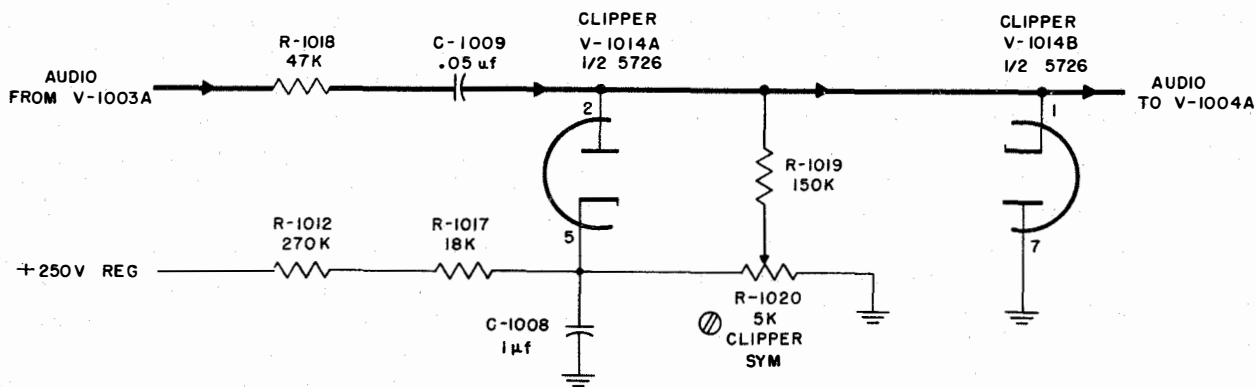

Figure 2-71. Clipper V-1014, Simplified Schematic
(3) CLIPPER V-1014.—This stage (figure 2-71) limits the audio signal amplitude to prevent overmodulation of the carrier by excessively strong signals. The clipper, V-1014, is a double diode. The plate of the first half, pin 7, is connected to ground and the cathode of the second section is tied to +4 volts at the junction of R-1017 and R-1020, which is part of a voltage divider from regulated +250 volts to ground, consisting of R-1012, R-1017, and R-1020. The cathode of the first half, pin 1, and the plate of the second half, pin 2, are tied together and held at a d-c potential of between +4 volts and zero, depending on the setting of potentiometer R-1020, which is adjustable to allow for a difference in characteristics between the two halves of V-1014. If the two halves are exactly similar, the setting of the arm of R-1020 is +2 volts. The audio signal from the cathode follower is coupled by capacitor C-1009 to the junction of pins 1 and 2 of V-1014. Effectively, the cathodes of both halves are approximately two volts more positive than their respective plates, with the signal being fed to the plate of one half and the cathode of the other half. When the positive peak of the audio signal reaches +2 volts, the plate of the second half of V-1014 becomes positive with respect to its cathode, and the second half of V-1014 conducts, clipping the positive swing of the signal to a maximum of two volts, the additional signal peak above two volts appearing across resistor R-1018. The same reasoning holds when the negative swing of the audio signal reaches two volts, with the first half of V-1014 conducting in this case instead of the second half. As mentioned above, the CLIPPER SYM. potentiometer, R-1020, is adjusted so that any difference in plate current characteristics of the two halves of V-1014 can be regulated to make sure that the positive and negative peaks of the audio signal are clipped at the same voltage level. The clipper output is developed across resistor R-1019 and coupled to audio amplifier V-1004A.